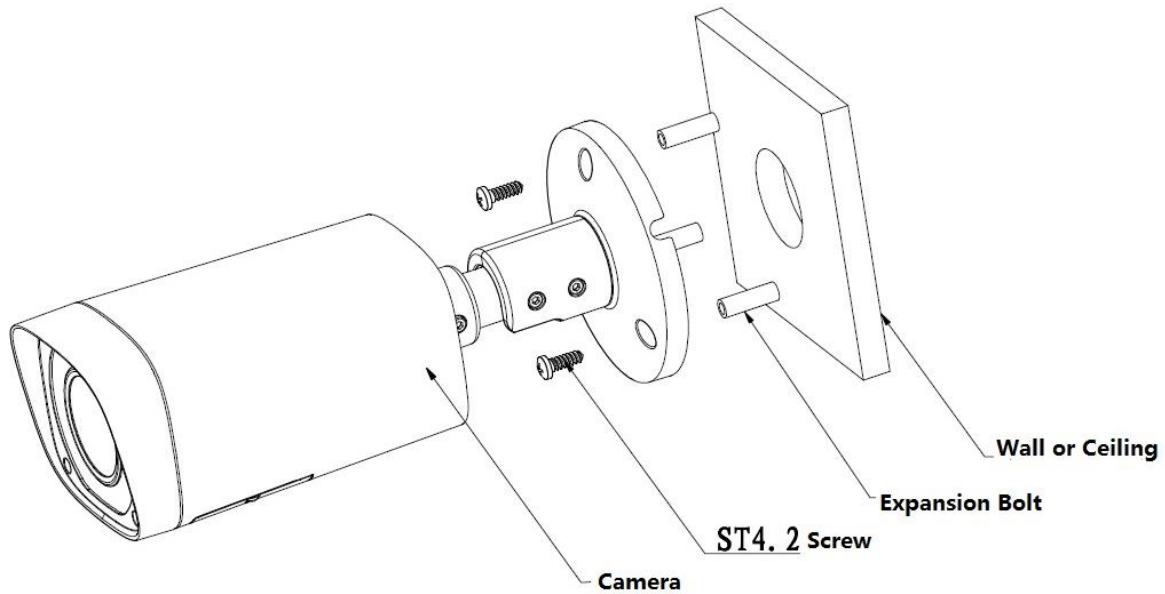

Figure 3-1
- Take out the camera cable through cable exit of the bracket chassis and install camera bracket. If it is cement wall, you need to install expansion bolt first (the installation hole of expansion bolt need to be in accordance with the bracket), then use self-tapping bolt to install bracket, which is shown in Figure 3-1.